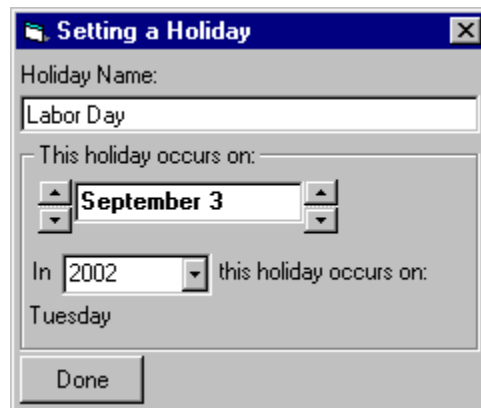

Figure 30: Holidays Page Setting a Holiday Screen
- 1 From the Holidays page, select a holiday by clicking anywhere on the row, then clicking on the Edit button. The Setting a Holiday window will appear, as shown in Figure 30.